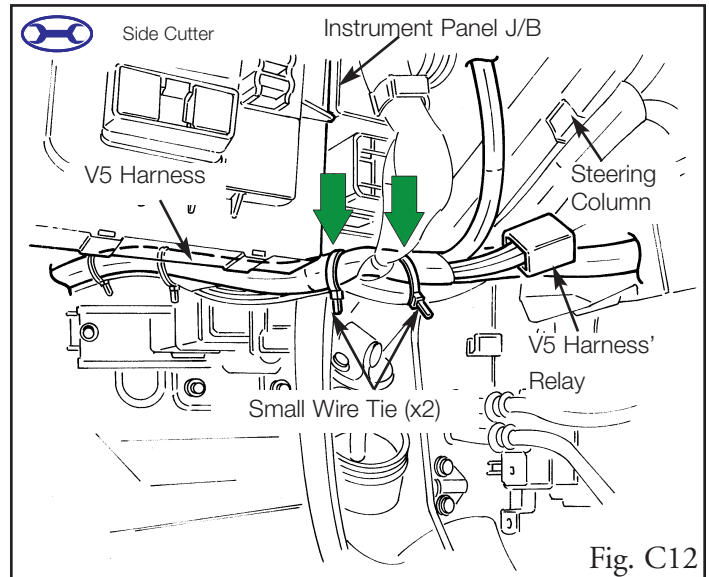

Fig. C12
15. Route the V5 harness toward the steering column area, then secure it to the vehicle's harness with two small wire ties. (Fig. C12)